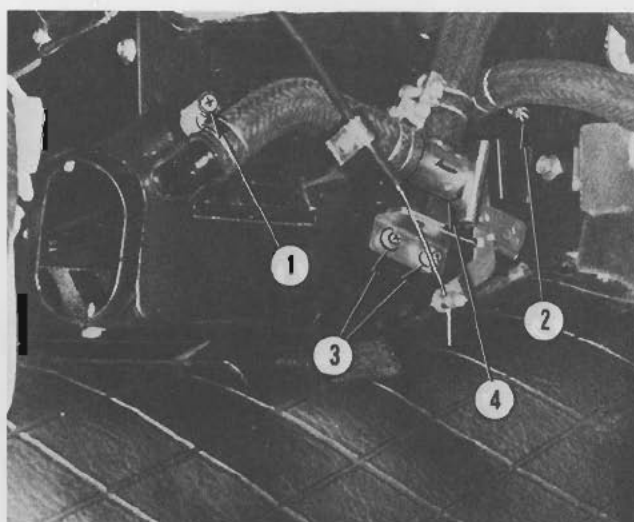

Figure III-11. Heater Hose and Valve Assembly
2. Loosen the hose clamps, Items 1 and 2, as shown in Figure III-11. Remove the heater hoses from the connections on the heater core.
3. Remove the two attaching screws, Item 3, and the heater cock assembly, Item 4. Replace a defective heater cock assembly with (Part No. 27116-E 4400) Assembly-cock heater (valve). (See Figure III-11.)